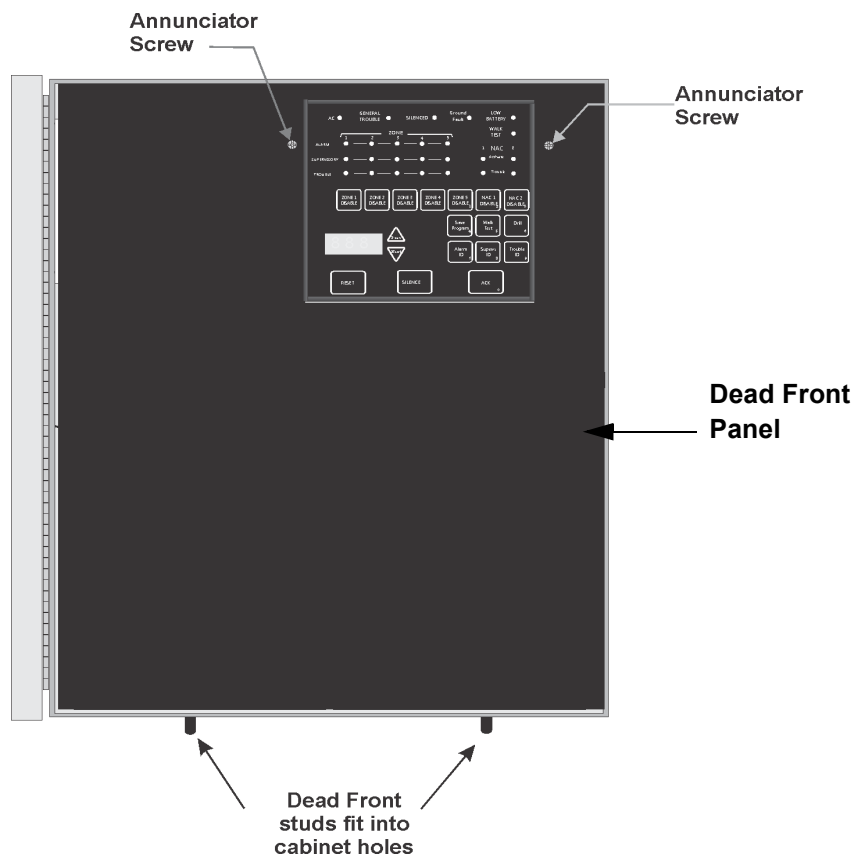

Figure 4-1 Dead Front Installation and Removal
1. Remove the top two annunciator screws, do not discard them they will be reused. See Figure 4-1 for annunciator screw location.
2. Set the dead front into the cabinet as shown in Figure 4-1.
3. Reinsert the two annunciator screws as shown in Figure 4-1.
1. Remove the two annunciator screws, do not discard them. See Figure 4-1.
2. Tilt the dead front forward to clear the top of the cabinet and left the dead front out of the cabinet. See Figure 4-1.
3. Reinsert the two annunciator screws. See Figure 4-1.